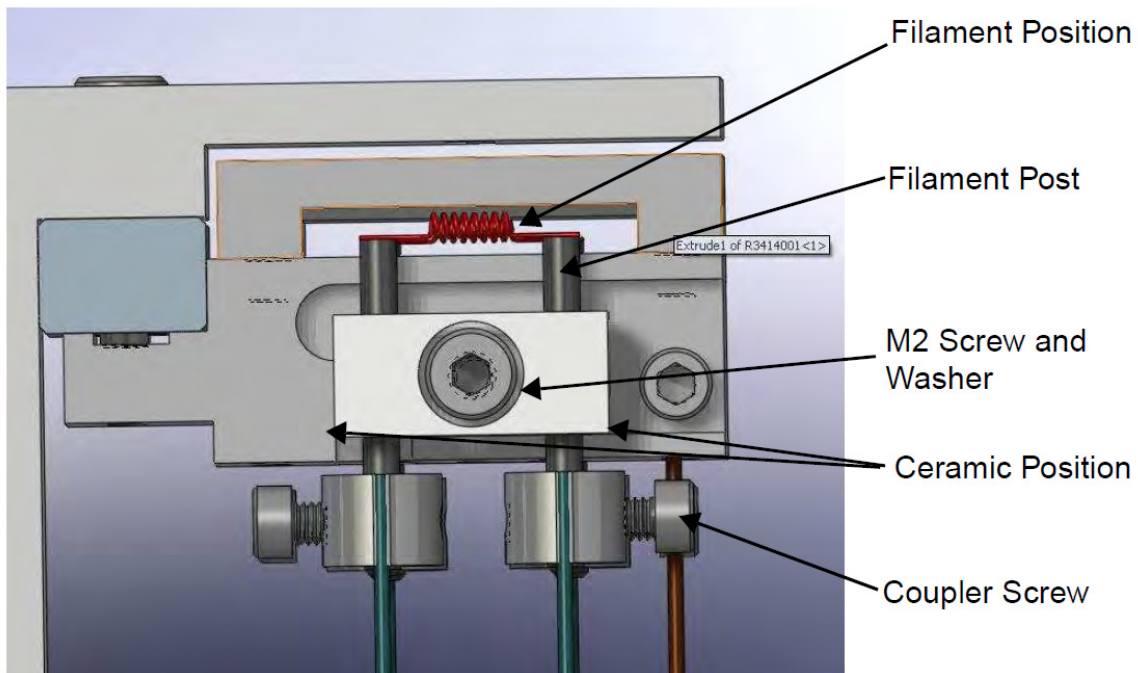
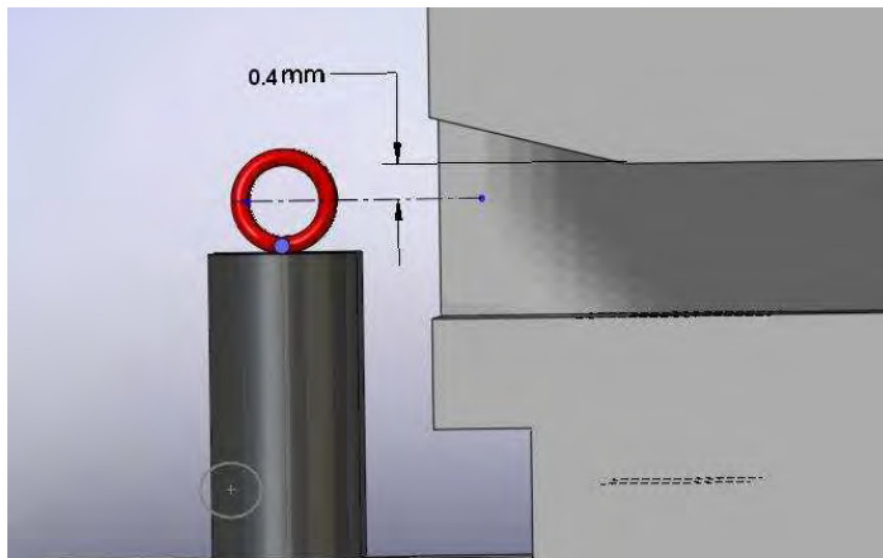

Figure 2-8. Filament positioning
Figure 2-9. Filament alignment
20. Insert new filaments into a pair of couplers. Verify filament alignment as shown in Figure 2-8 and Figure 2-9. Keep screws loose while aligning the filament position, then tighten screws securely once aligned.